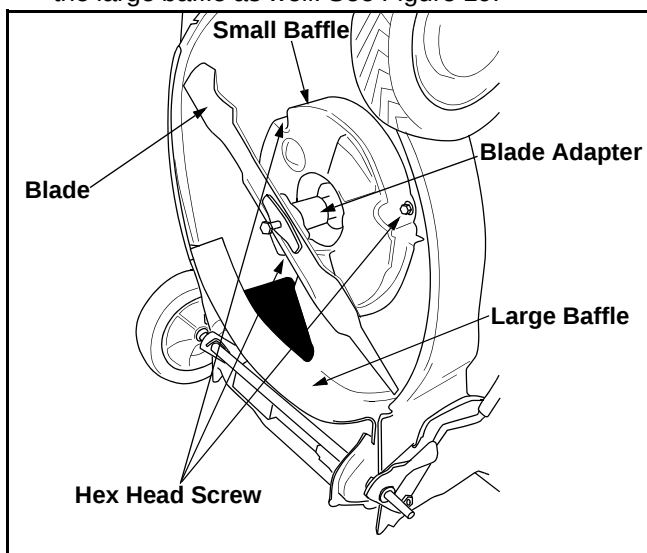

Figure 19
- Remove the blade, blade adapter and related hardware. See Figure 19.
- Remove the three hex head screws holding the small baffle and remove the small baffle. Remove the large baffle as well. See Figure 19.
- Replace the large baffle. Refer to Figure 19.